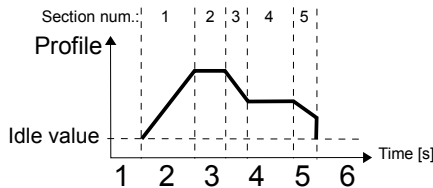

Fig. 7.101. Sample of Profile/timer
- **level (gate)** - this means that configured by user **Profile** is generated when source signal will have a value > 0 , otherwise (if source value ≤ 0) defined Profile will not be generated. See **Fig. 7.101** and example **a**) in **Fig. 7.102**,
- **edge (once)** - this means that configured by user **Profile** will be triggered by the rising edge (from values ≤ 0 to the value > 0) of source signal. After the rising edge the **Profile** will be generated in whole (once), regardless of further changes to the signal source, see **Fig. 7.101** and example **b**) in **Fig. 7.102**,
- **edge (re-triggering)** - this means that configured by user **Profile** will be triggered by the rising edge (from values ≤ 0 to the value > 0) of source signal. However, in this mode, unlike the **edge (once)** mode the defined **Profile** will be generated from the beginning every time when the **Triggering source** signal will generate an edge, whether that Profile had been completed or not. See **Fig. 7.101** and example **c**) in **Fig. 7.102**,
Fig. 7.102. Samples of **Profile** output waveforms defined in Fig. 7.101, triggered by signal selected in **Triggering source** parameter for **Triggering mode: level (gate), edge (once), edge (retrig.)**